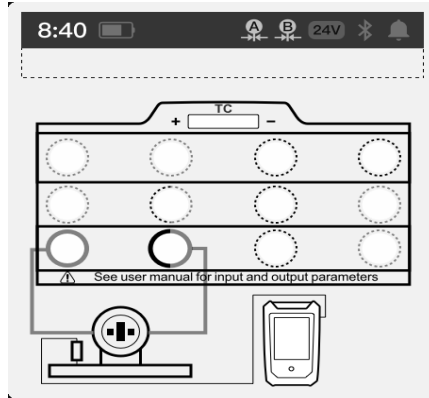

Figure 17 I/P converter
- ◆ As shown in the Figure 17, connect the DUT output with calibrator's electrical module.